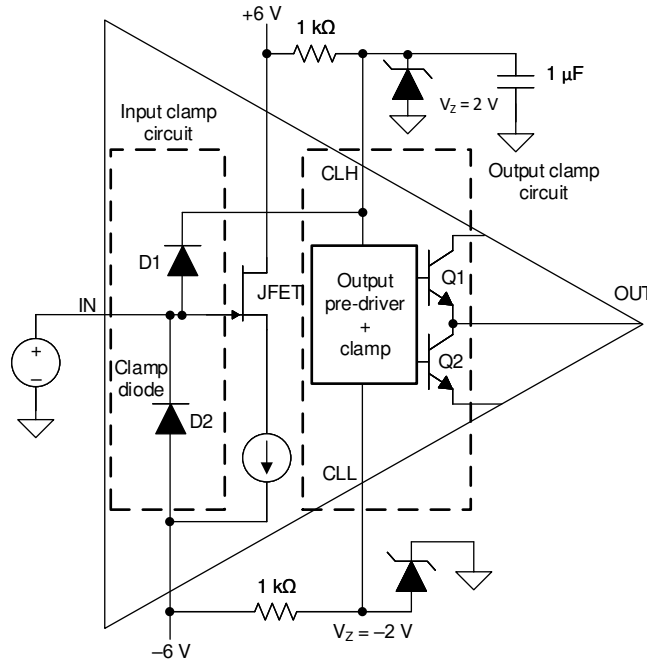

图 8-2. Internal Input and Output Over-Voltage Clamp
- 图 8-2 shows the input of the BUF802 tied to pins CLH and  $V_{S-}$  through two internal clamp diodes, D1 and D2. The diodes are rated for 100 mA of continuous current but can withstand much higher transient currents. If the JFET input voltage exceeds the voltage at CLH or  $V_{S-}$ , the diodes get forward biased, clamping the JFET to CLH and  $V_{S-}$ . A 1  $\mu$ F capacitor connected in parallel to the zener diode, helps in transient absorption travelling through the D1 diode.